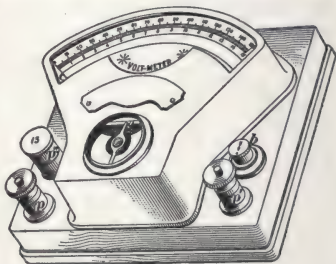

FIG. 46.
**58.** The **Weston voltmeter**, Fig. 46, is based upon the same principles as the Weston ammeter, and in appearance is quite similar to it. Its internal resistance, as in all voltmeters, is exceedingly large; the resistance of a Weston voltmeter for indicating up to 150 volts is about 19,000 ohms, while the resistance of a Weston ammeter, measuring strengths of currents up to 15 amperes, is only .0022 ohm. It will be seen that, owing to the great resistance, the current passing through a voltmeter is exceedingly small. For example, in the instrument described above, when indicating 150 volts, the current, by Ohm's law, is only  $150 \div 19,000 = .0079$  ampere. All voltmeters are provided with at least two terminals, or binding posts, such as  $p$  and  $p'$ , Fig. 46. Connections are made by two separate conductors, called *voltmeter leads*, from these binding posts to two points between which the difference of potential, or the electromotive force, is to be measured.